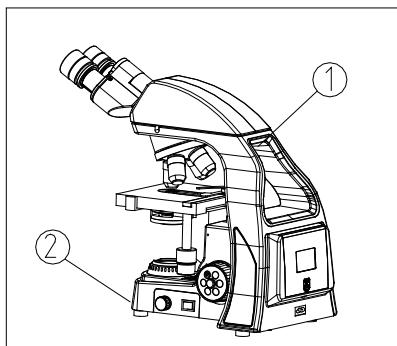

Fig. 1
3. When moving the microscope, grasp the rear handle (1) and the front bottom edge or the microscope body (2) with each hand. Handle with care. (See Fig. 1)